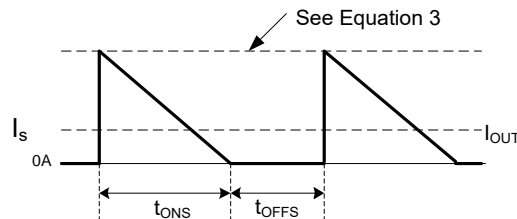

Figure 2. Secondary Current Waveform
The AP3190T is designed to work in constant current (CC) mode. Figure 2 shows the secondary current waveforms.